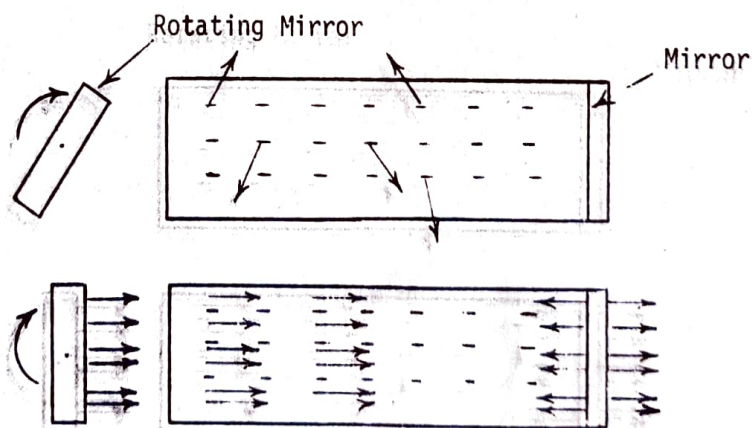

Figure 5. Q-switching Technique
g. Current tactical lasers generate a pulsed, rather than continuous, laser beam. These short, high intensity flashes can be much brighter than a continuous beam from the same power source. A technique known as Q-switching is used to produce the pulsed energy in our tactical lasers. This is achieved by allowing the fluorescence to occur, but delaying the application of feedback from the axial mirrors. Figure 5 shows schematically one method which may be used to accomplish this by the use of a rotating mirror. In this case, the sample is pumped up continuously but reinforcement along the laser axis occurs only when the mirror surfaces are parallel. In PAVE SPIKE, the rotating mirror is not used, but an electro-optic cell (pockels cell) is inserted in front of one of the mirrors. This cell acts much like the shutter in a camera, allowing the passage of photons only when stimulated by an external voltage. The rate at which the voltage is applied to the pockels cell determines the laser pulse rate.
(1) An active material which may exist in a metastable fluorescent state and which releases energy in the wave length desired is selected.
(2) The active material is pumped up into a fluorescent state by another light source. When more atoms of the sample are existing in the fluorescent state than the ground state (population inversion) amplification can occur.
(3) In a Q-switched laser the sample is pumped up, but reinforcement along the axis of the sample is prevented by preventing feedback between the end mirrors. When feedback is allowed to occur a very short, intense flash of laser energy is generated along the sample axis by the process of stimulated emission.